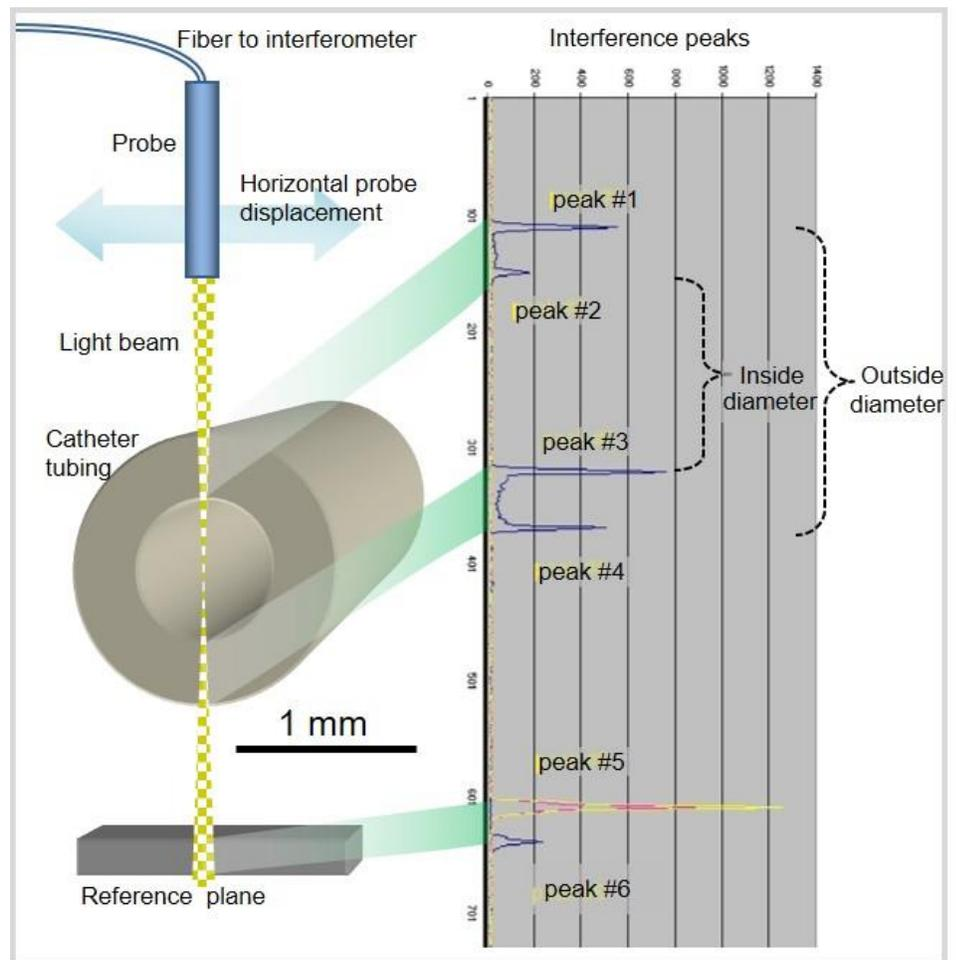

Figure 2: Cross-sectional thickness measurements of thin catheter tubing.
- **Moving surfaces can be measured continuously** since the probes can acquire long profiles at high speed, and at a standoff of up to 1 m. Examples include measurement of multi-layer glass or polymer sheets on production webs, and cross-sectional inspection of optical fibers or tubing at the point of extrusion (see Figure 2).
Thin tubing such as medical catheter tubing (<1.5 mm thick) is an excellent candidate for multi-layer optical profiling. Figure 2 shows one possible setup for cross-sectional profiling of such tubing. See an example of measurements obtained with this setup in Table 1.